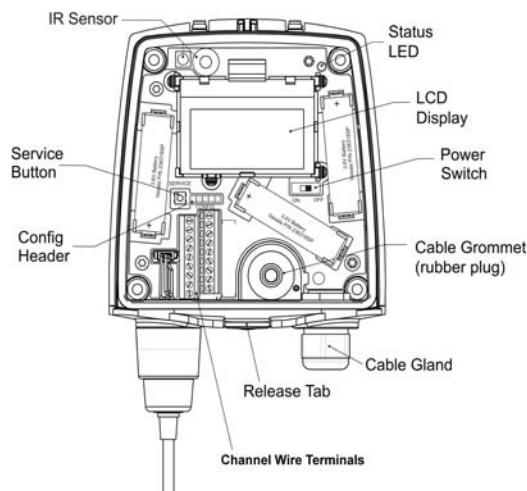

Figure 9: HMT140 Components Diagram
- 1 Open the HMT140 cover. Use your thumb to press and hold the release tab located between the two glands (see Figure 9 on page 19), then pull the cover out and up with your other hand.
- 2 Open the HMT140 case. Use your thumb to press and hold the release tab located between the two glands (see Figure 9 on page 19), then pull the cover out and up with your other hand. Pry the case open with a slot screwdriver if you are unable to open the case by hand.